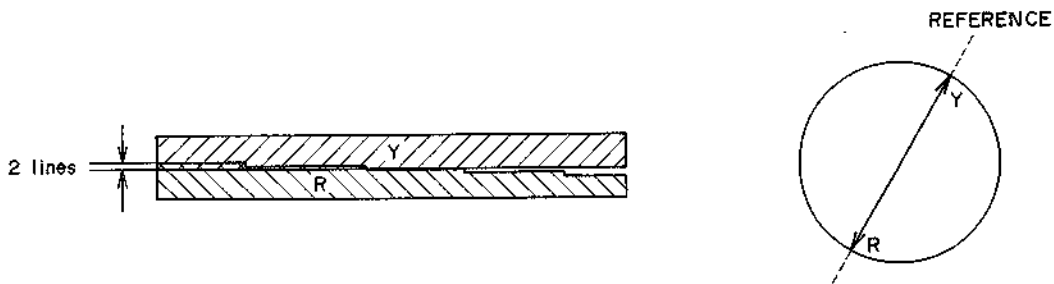

Fig. 4-11
- 7) After they are correctly positioned, tighten screw (a) only tighten by hand using the special hexagon screwdriver shown in Fig. 4-11.